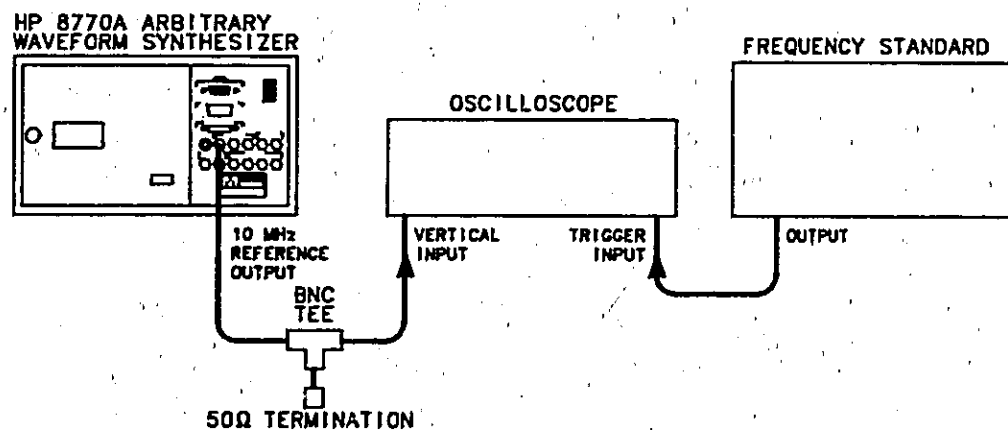

Figure 4-3. 10 MHz Reference Oscillator Aging Rate Test Setup
1. Connect the Synthesizer's rear panel 10 MHz REFERENCE OUTPUT 1 to channel A of the oscilloscope. Use the 50Ω termination to load the output, (see Figure 4-3 below). Adjust the oscilloscope's time per division to 0.1 μs/division.